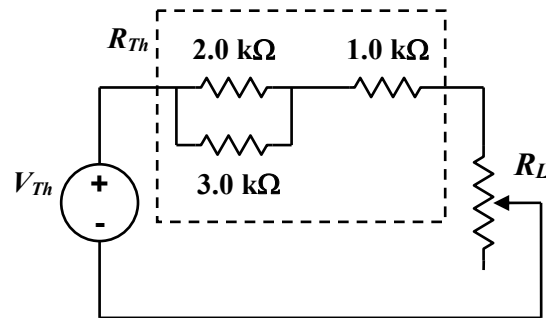

Figure 4.5
20. Reconfigure the circuit as shown in **Figure 4.5**; this is the Thevenin Equivalent Circuit of **Figure 4.3**. Use the measured value of V_{Th} for the supply voltage. The resistor set-up in the dashed box is R_{Th} . Alternatively, another potentiometer set equal to R_{Th} could be used.